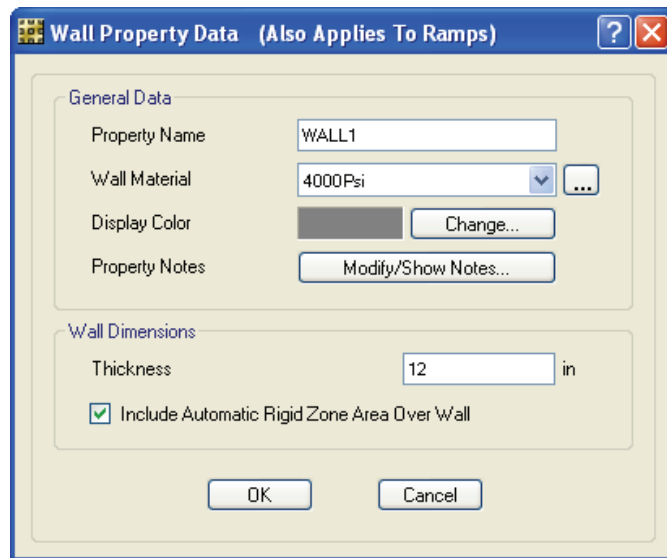

Figure 16 Wall Property Data form
- C. Click the **Modify/Show Property** button to access the Wall Property Data form shown in Figure 16. Recall that the walls for the project are 12 inches thick.